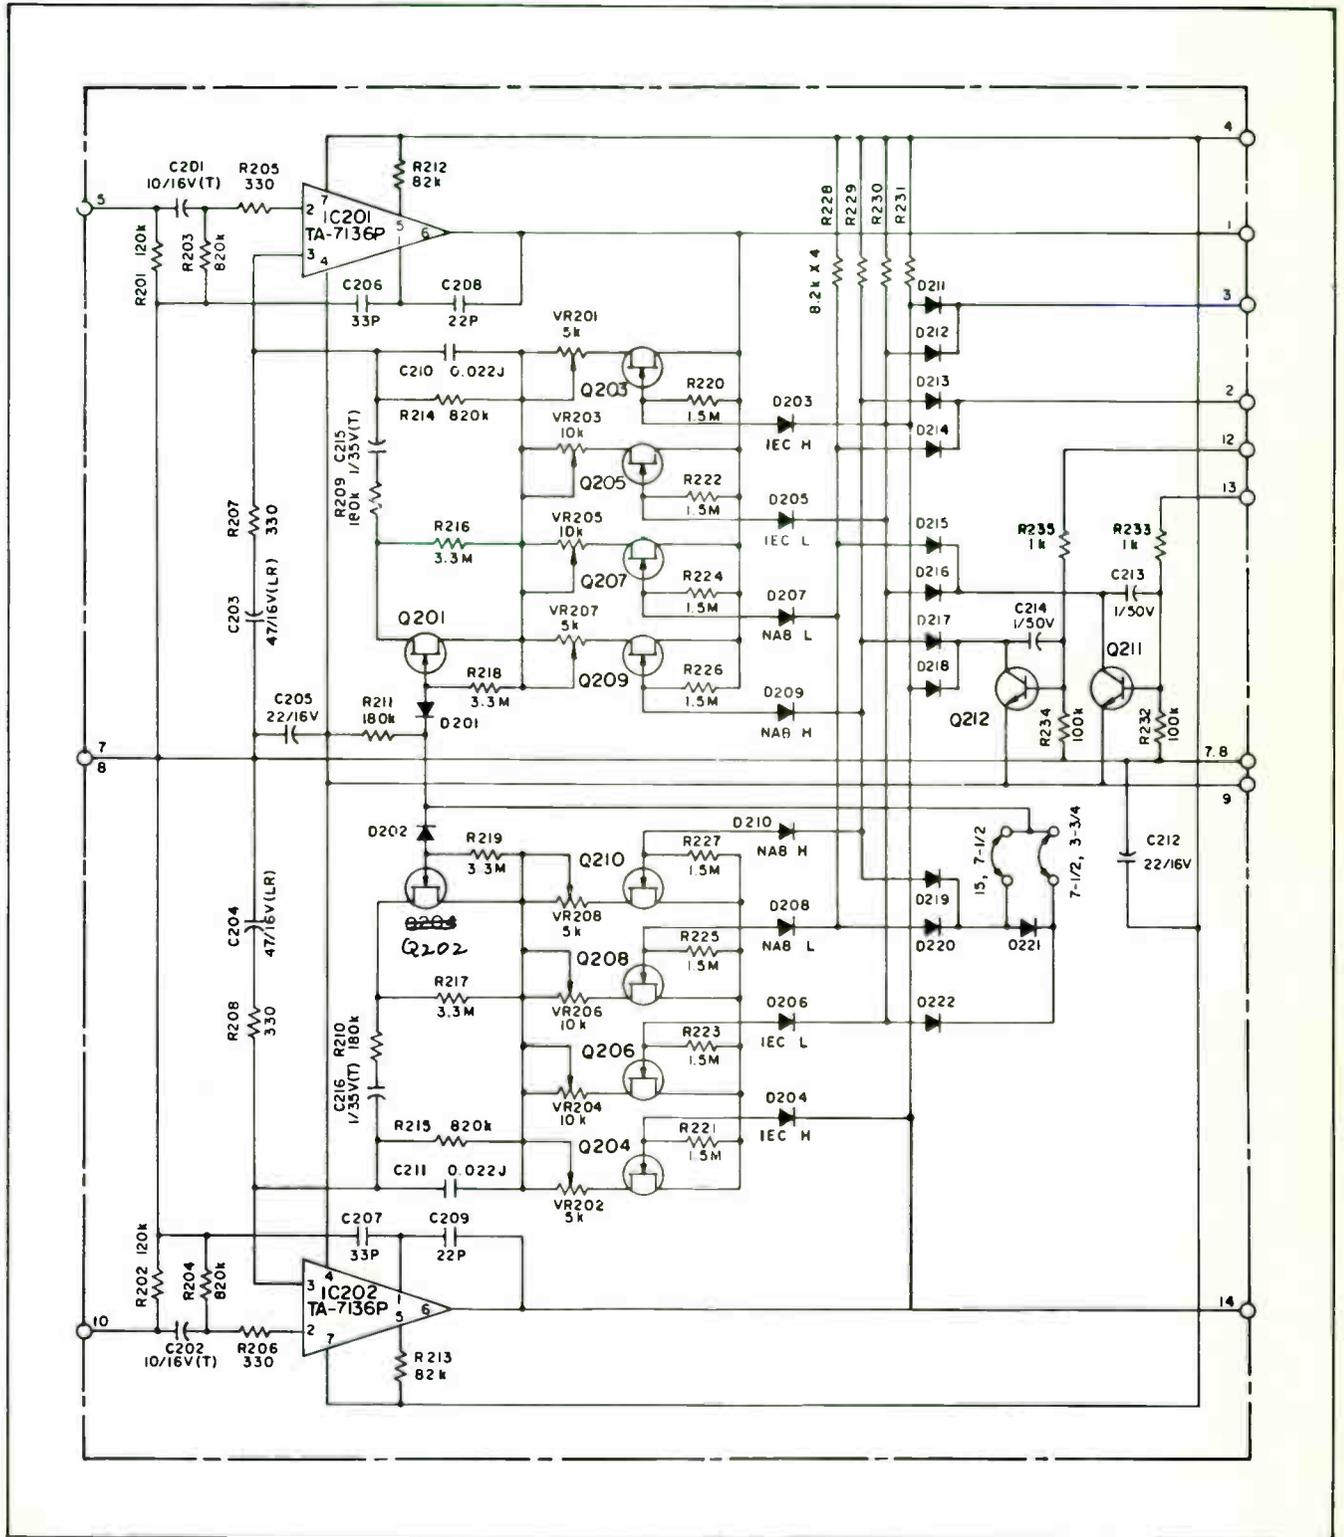

Figure 4-7. Reproduce Equalizer Amplifier Schematic
**4-16. Reproduce Equalizer Amplifier.** Refer to schematic, Figure 4-7. The reproduce signal is fed from the head assembly to FET switch Q201 of the reproduce equalizer amplifier. Table 4-2 shows the conditions of each transistor in the reproduce equalizer amplifier for each tape speed and type of equalization.